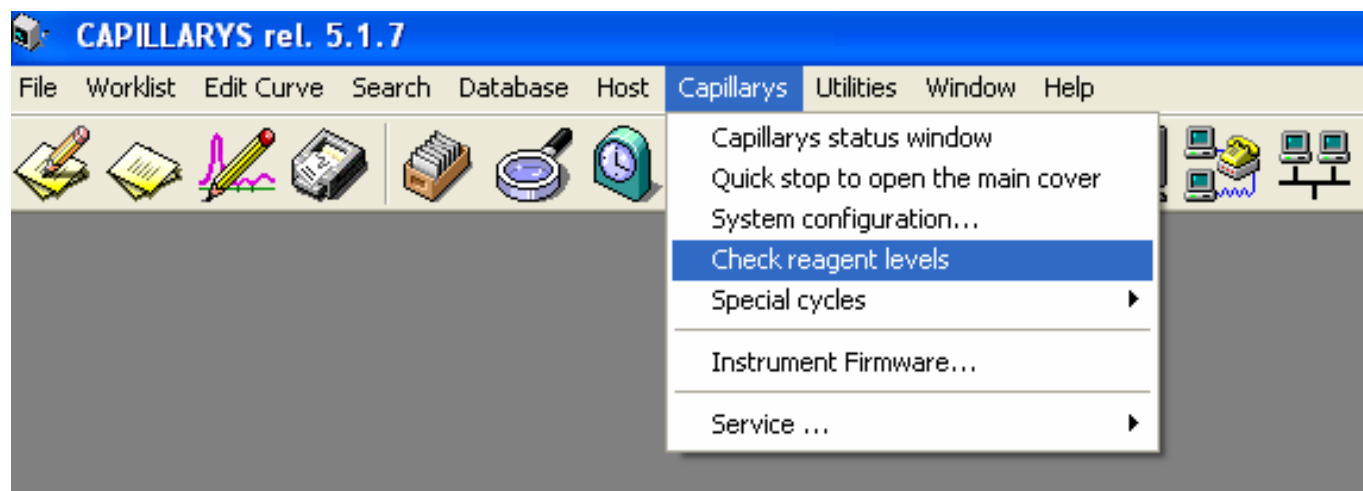

Fig 2
*Electroosmotic flow (EOF)*, **Fig 2.**, is the bulk flow of liquid through the capillary is important feature in capillary electrophoresis. It is caused as follows:
**Figure 2.** Formation of double layer inside of the capillary leading to electroosmotic flow towards the cathode. The grey filled block arrow symbolizes EOF, the smaller unfilled block arrow pointing towards the anode represents migration based on ion charge (i.e., negatively charged ions migrate towards anode). Since EOF is significantly stronger, the bulk of solution will be carried towards the cathode.